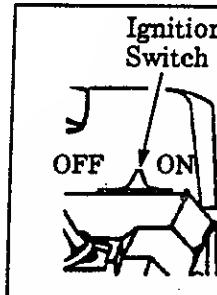

Figure 8
- a. Move ignition switch to "On." Figure 8.
- a. Move ignition switch to "On" position. Figure 8.